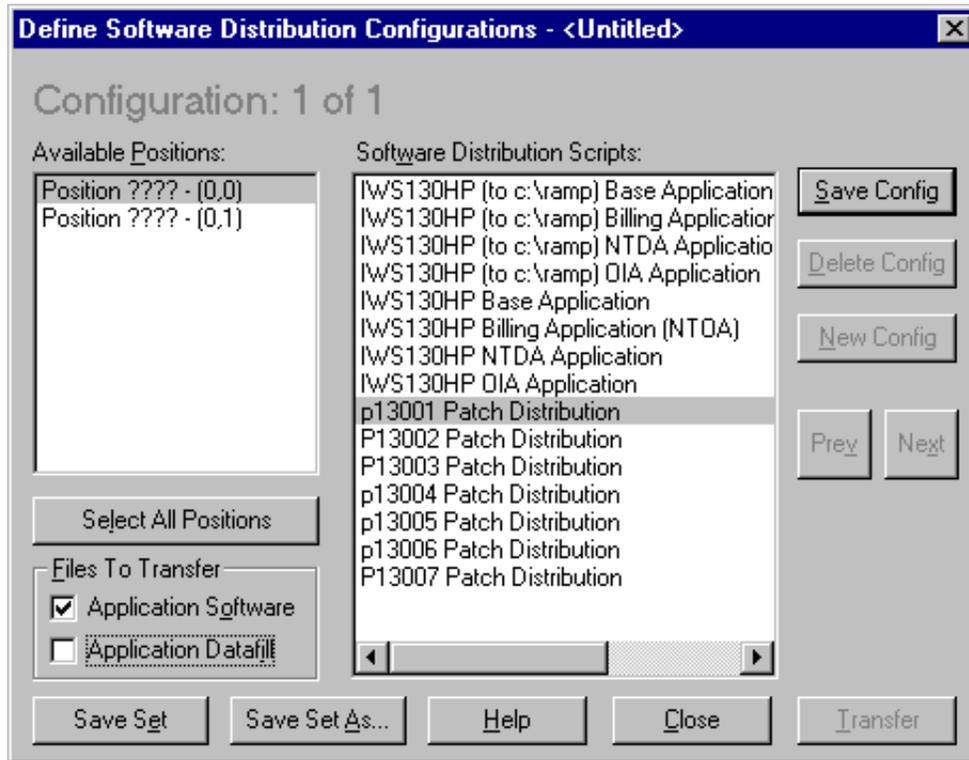

FIGURE 58. Example Software Distribution Dialog Box with Patching Files
- 3. Press Alt+N to select New. This opens the Define Software Distribution Configurations dialog box, shown in Figure 58. In this window, you will define a configuration set to send the patches to the appropriate positions.**